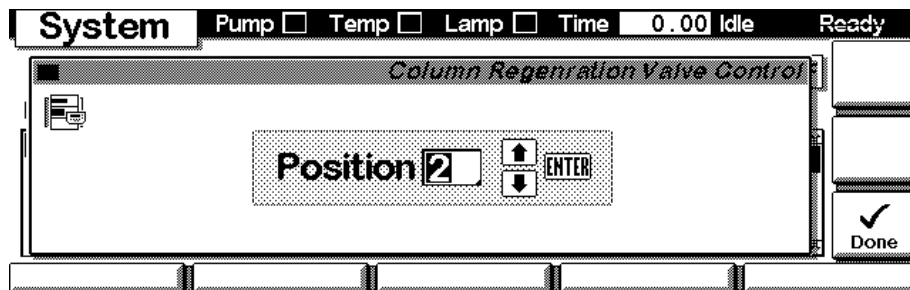

Figure 7 Switching the 1100 Series Valve
- 2 Select **Control (F5)** and then **Valve** to open the screen that is displayed in Figure 7. Use the arrow keys (up and down) to switch the valve to the next position.